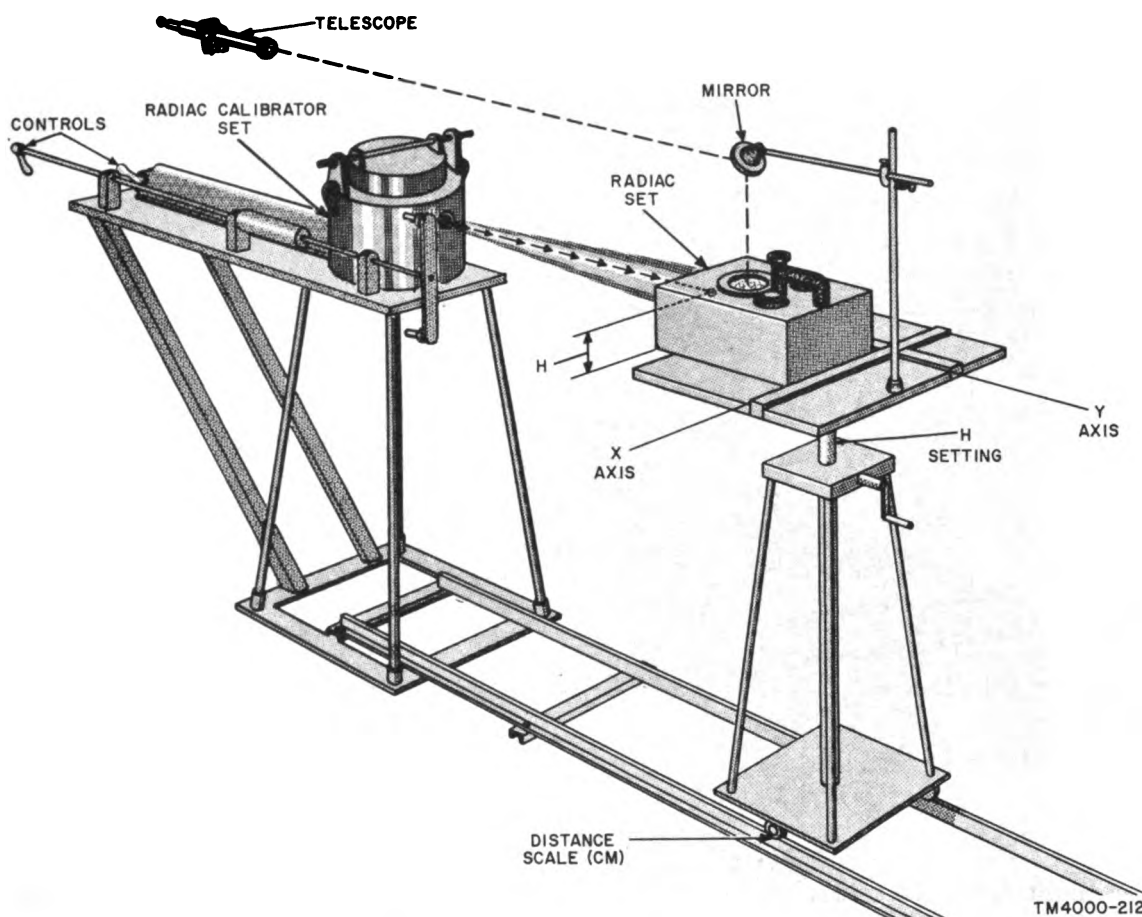

Figure 107. Depot-type radiac calibrator.
b. A depot-type radiac calibrator is shown in figure 107. A radioactive source of very high activity is mounted on a frame with special attenuation controls. The radiac set to be checked is placed on a carriage which rides on a track that contains a scale. Correct setting for the radiac set is shown by the X, Y, and H setting on the carriage. Charts that come with the calibrator are then checked to find the distance to place the carriage for a desired radiation level. The calibration set comes complete with a telescope and mirror, so that all readings can be made from a safe location behind the radioactive source.